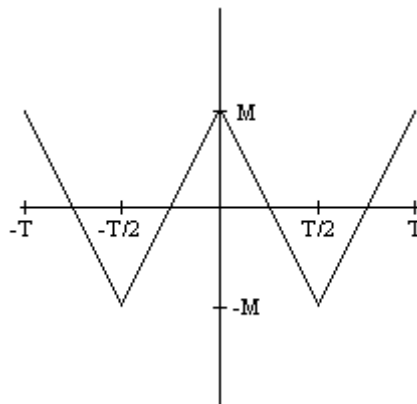

Figure 4: Triangle-Wave Input (to the Low-Pass Filter)
4. For $M = 15V$ and $T = 3ms$, write down the first three terms in the Fourier series expansion of the triangle wave shown in Figure 4.